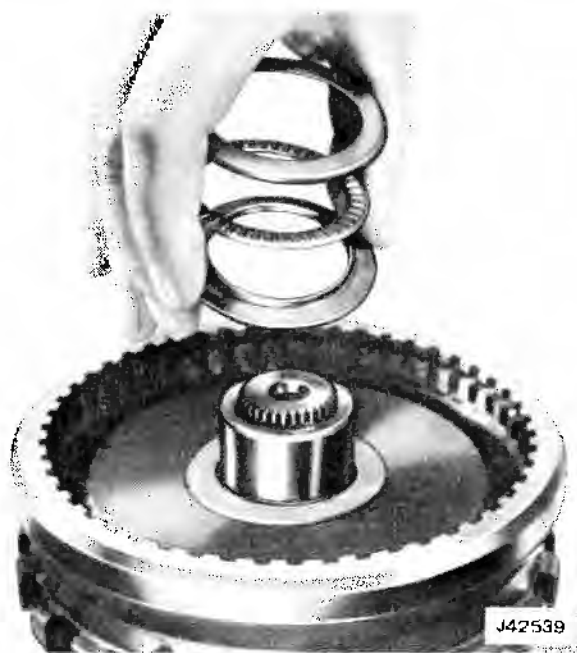

Fig. 7-109 Rear Internal Races and Thrust Bearing
(3) Install output carrier over main shaft so that pinions of carrier mesh with rear internal gear.
(4) Reposition components thus far assembled so that main shaft extends downward through hole in bench and back face of rear internal gear is upward.
(5) Install rear internal gear-to-output shaft races and thrust bearing and retain with petroleum jelly as shown in fig. 7-109.
(6) Place small race against internal gear with center flange facing upward.
(7) Install thrust bearing in race, and place large race over small race, with outer flange capped over bearing.